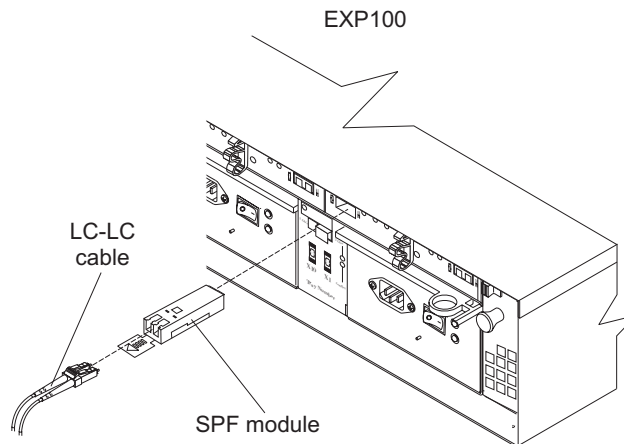

Figure 40. Installing an SFP module and connecting an LC-LC cable to the EXP100
3. Insert an SFP module into the SFP port located on the back of the EXP100; then, connect the other end of the LC-LC cable to the SFP module, as shown in Figure 40 on page 57.